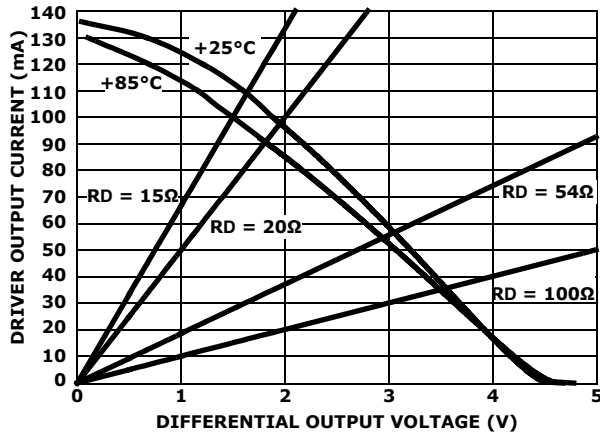

FIGURE 8. DRIVER OUTPUT CURRENT vs DIFFERENTIAL OUTPUT VOLTAGE
- See Figure 8 for more information, and for performance over-temperature.
Another advantage of the large V_{OD} is the ability to drive more than two bus terminations, which allows for using the ISL315xE in "star" and other multi-terminated, "nonstandard" network topologies. Figure 8 details the transmitter's V_{OD} vs I_{OUT} characteristic, and includes load lines for six (20 Ω) and eight (15 Ω) 120 Ω terminations. The figure shows that the driver typically delivers 1.65/1.5V into 6/8 terminations, even at the worst case temperature of +85°C. The RS-485 standard requires a minimum 1.5V V_{OD} into two terminations, but the ISL315xE delivers RS-485 voltage levels with 3x to 4x the number of terminations.